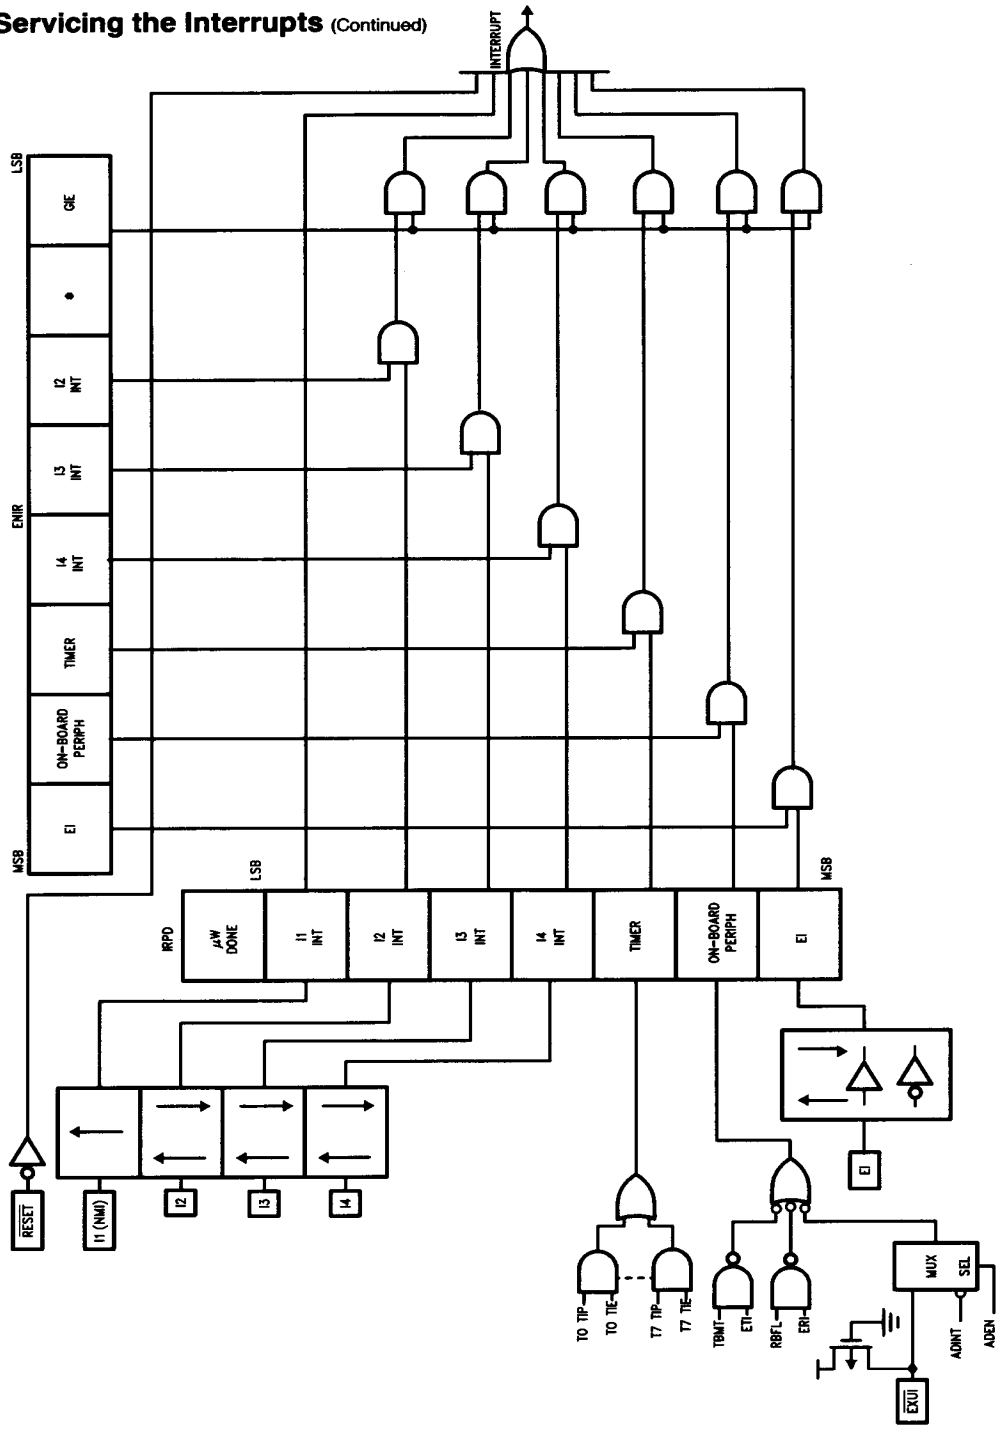

FIGURE 14. Block Diagram of Interrupt Logic
The Interrupt, once acknowledged, pushes the program counter (PC) onto the stack thus incrementing the stack pointer (SP) twice. The Global Interrupt Enable bit (GIE) is copied into the CGIE bit of the PSW register; it is then reset, thus disabling further interrupts. The program counter is loaded with the contents of the memory at the vector address and the processor resumes operation at this point. At the end of the interrupt service routine, the user does a RETI instruction to pop the stack and re-enable interrupts if the CGIE bit is set, or RET to just pop the stack if the CGIE bit is clear, and then returns to the main program. The GIE bit can be set in the interrupt service routine to nest interrupts if desired. Figure 14 shows the Interrupt Enable Logic.